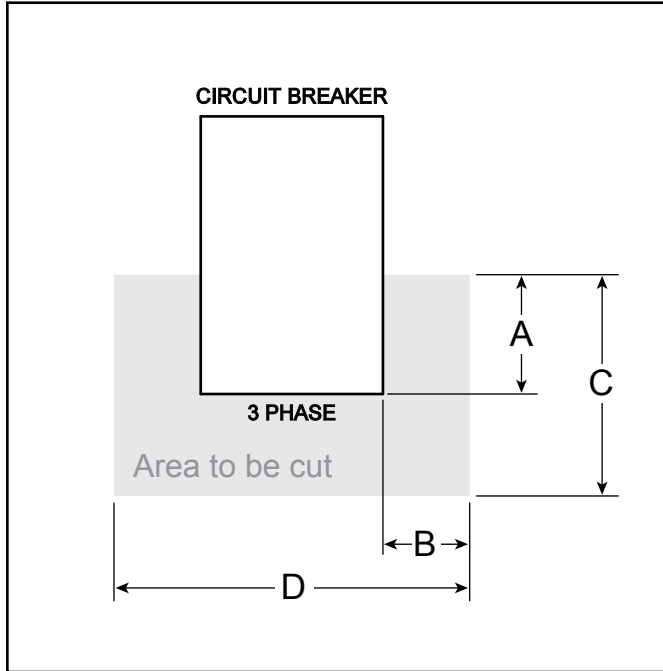

Figure 5. Cutting Guide
2. Use a ruler and scribe to mark control panel for cutting. Refer to Figure 5 and Table 2.